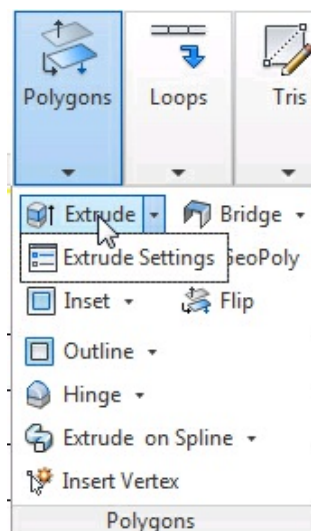
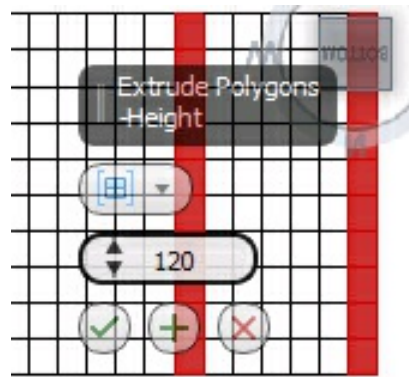

Figure 9-62 Choosing *Extrude Settings* from the *Extrude* drop-down
Figure 9-63 The *Extrude* caddy control
6. Choose the **Extrude Settings** button from the **Extrude** drop-down in the **Polygons** panel, as shown in Figure 9-62; the **Extrude** caddy control is displayed in the viewport, refer to Figure 9-63.